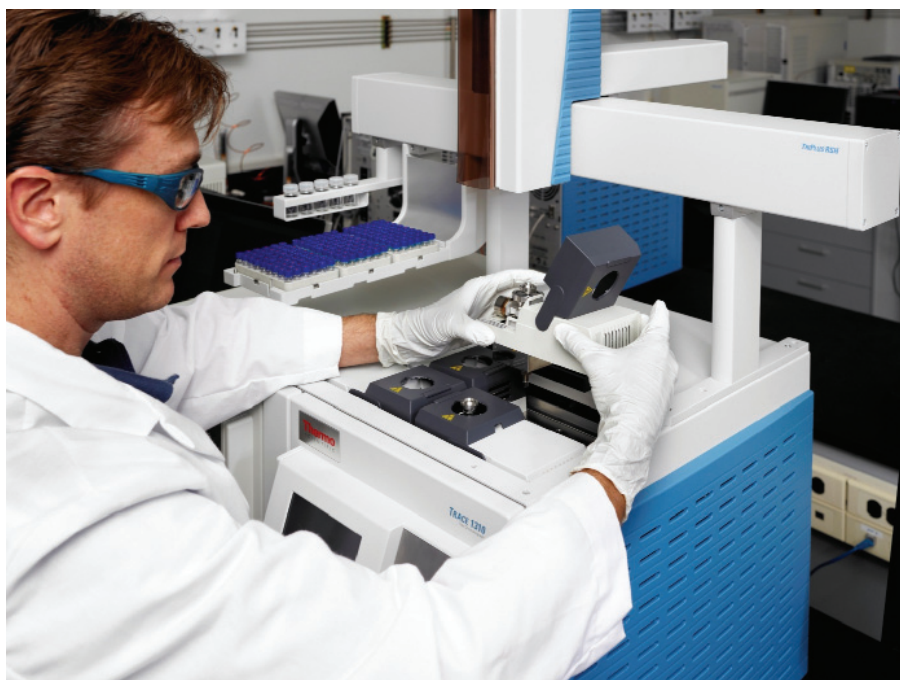

Figure 4. The Thermo Trace 1300 GC system showing the modular detector system. Picture courtesy of Thermo-Fisher Scientific.
Following lunch and the extensive vendor exhibition, the first presentation in the afternoon session (chaired by Karen Rome of AstraZeneca) was given by **Dr Greg Johnson** of **Thermo Fisher Scientific** – 'A fresh approach to managing GC in your laboratory'. Greg discussed the new Thermo Trace 1300 GC which provides a high degree of flexibility using modular detection systems (see Figure 4). Whereas many labs have numerous GC's with fixed specific configurations, this instrument can switch detectors (2) in and out in under a minute. The detectors available as modules include FID, TCD, ECD, NPD, FPD, DID and MS.